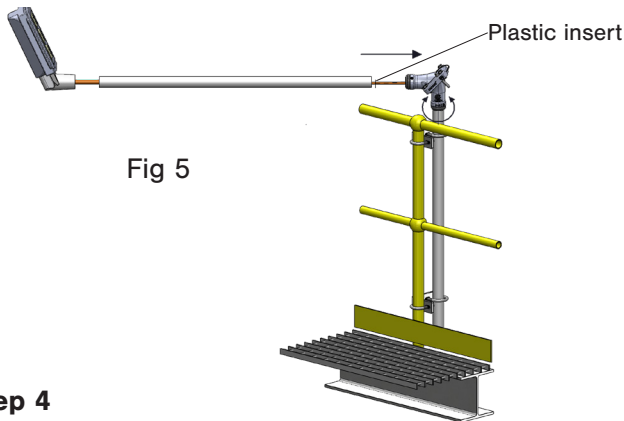

Fig 5
- Slip the pole top into the Maxis™ joint. (Fig 5)